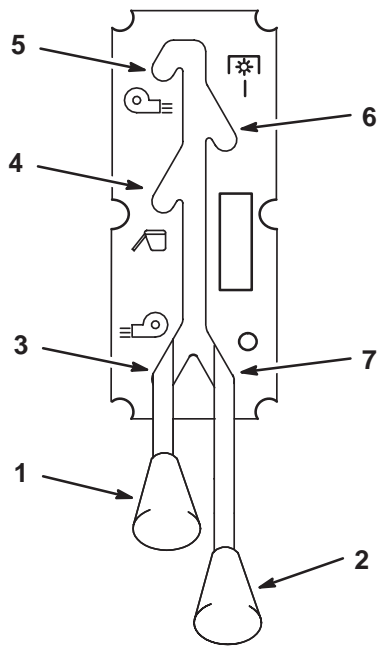

Figure 20
1. Disengage the quiet collector PTO control (Fig. 20).
1. To blow right, move the draft control to the lowest position (Fig. 20).
2. For collecting grass, move the draft control to the middle position (Fig. 20).
3. To blow left, move the draft control to the highest position (Fig. 20).
The PTO control is located on the left side of collector (Fig. 20).
1. To engage the collector, move the PTO control to the upper position. (Fig. 20).
2. To disengage the collector, move the PTO control to the lowest position (Fig. 20).
2. Disengage the quiet collector PTO control (Fig. 20).